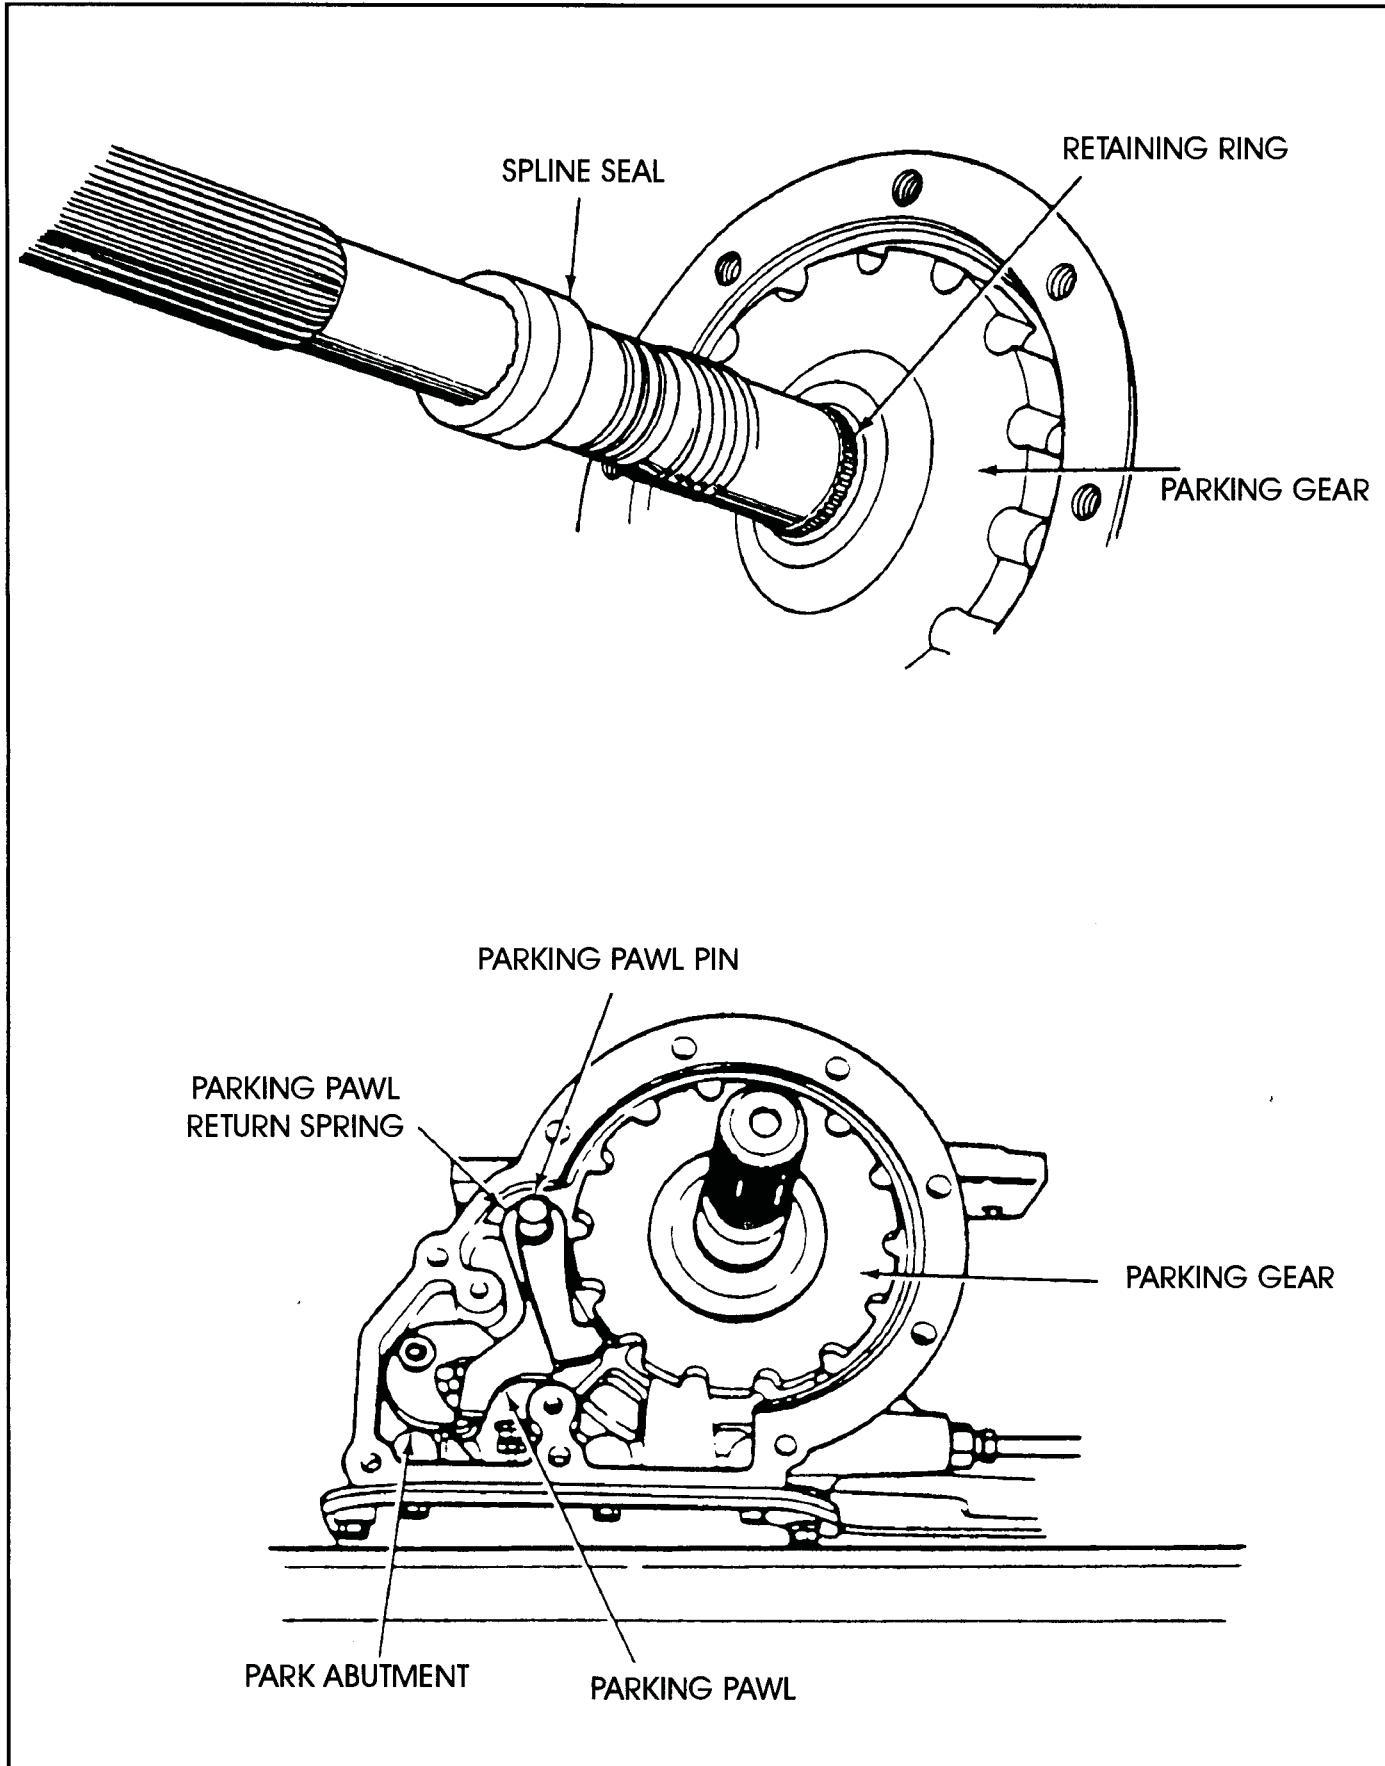

Figure 22
**CAUSE:** The cause may be a broken snap ring on the output shaft, allowing the parking gear to move rearward, and then the parking pawl cannot engage into the parking gear. Refer to Figure 22.